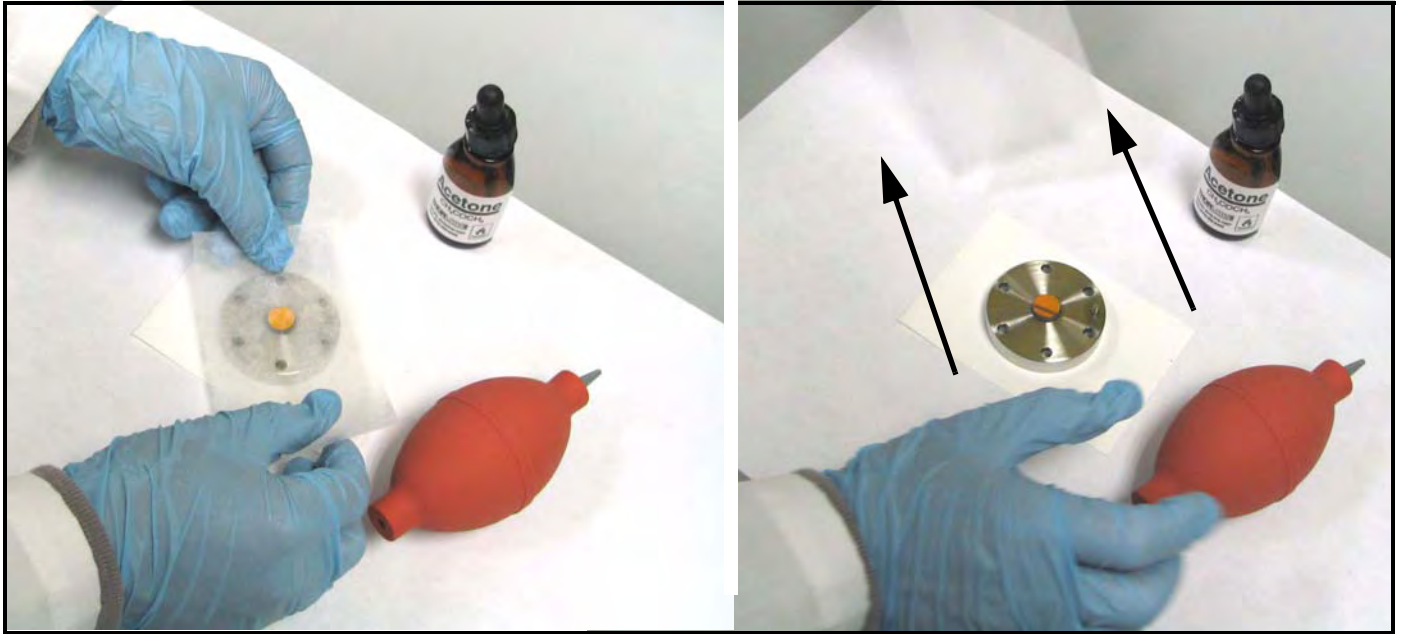

Figure 78: Dragging the Wet Lens Tissue Across the Mirror
- Place the wet lens tissue on top of the mirror and drag it horizontally across the surface of the mirror (see Figure 78).